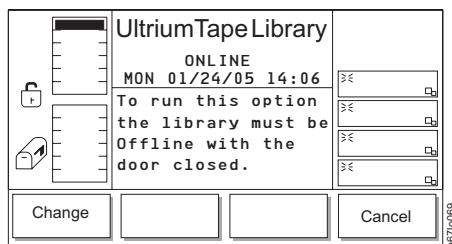

Figure 4-137. Library Submenu
2. Press the button below the **Library** softkey. The Library Submenu displays (see Figure 4-137).